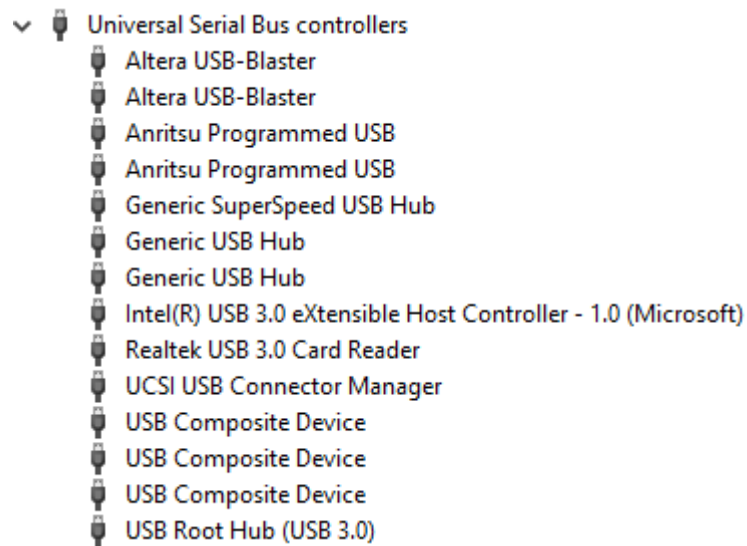

Figure D-1. USB Controller or Other Devices
1. Check the PC Device Manager. If installed successfully, the device should be present under Universal Serial Bus controllers as “Anritsu Programmed USB”. See Figure D-1.
Once it is installed successfully, it will appear in the Device Manager or Other Devices folder as in Figure D-1.